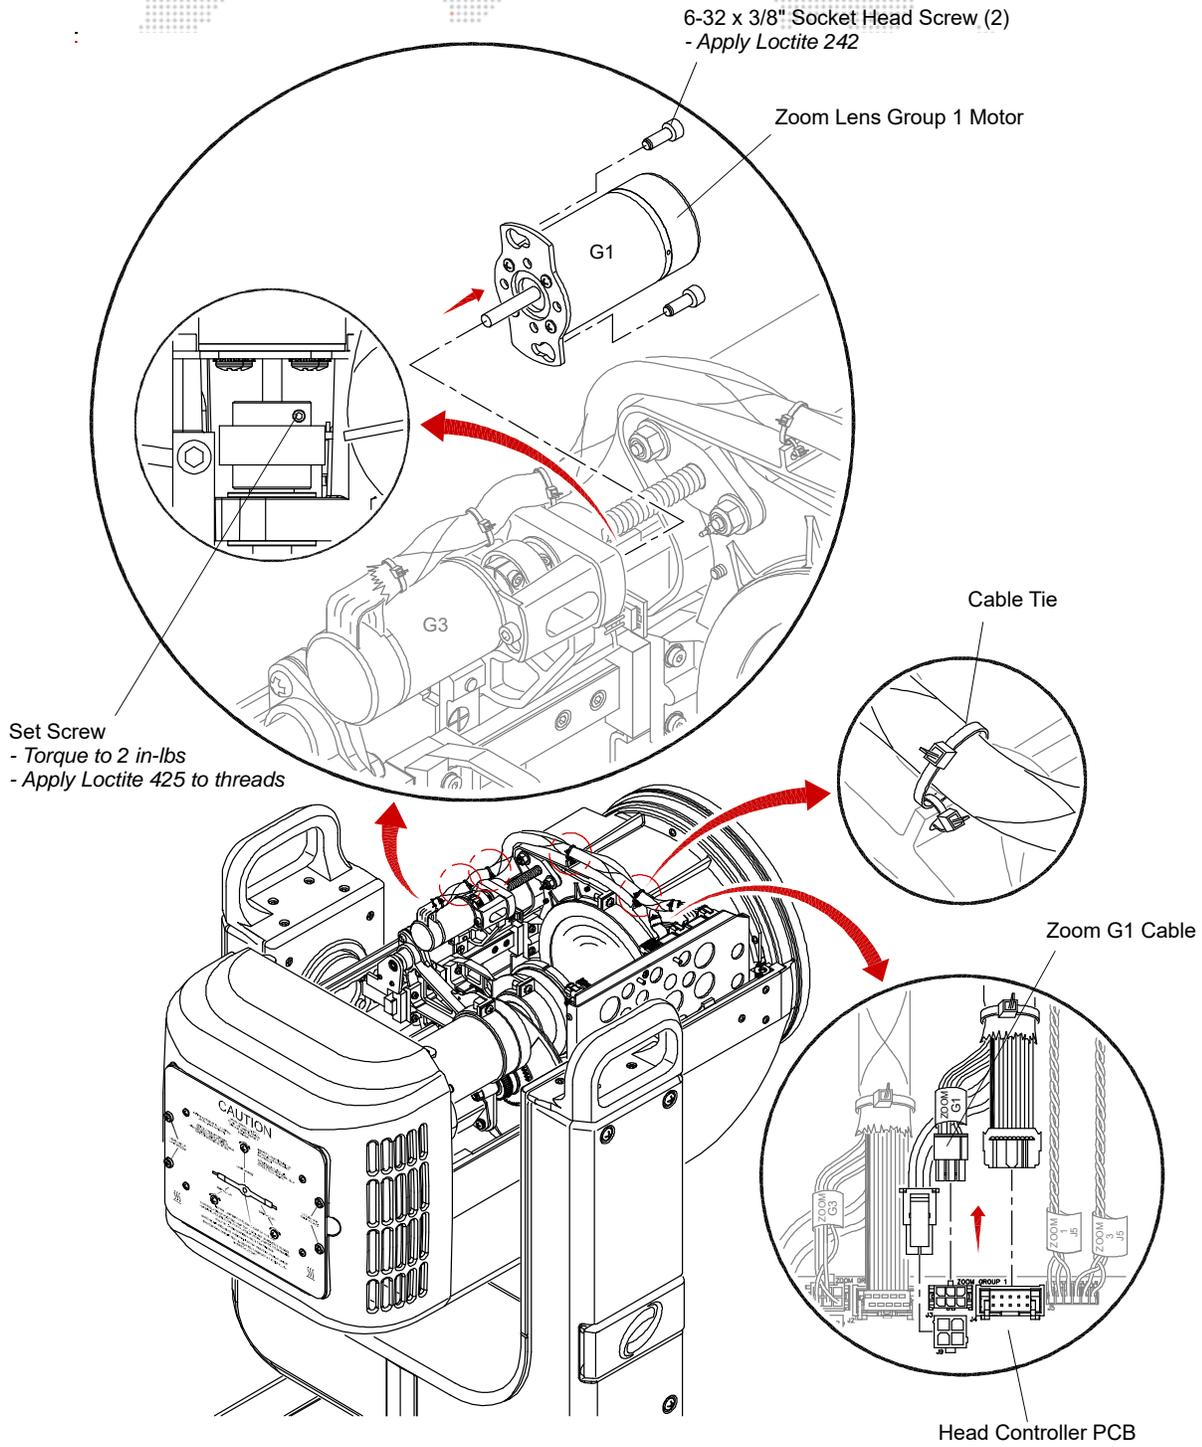

Figure 3-33: Removing Zoom Lens Group 1 Motor
- a. Lens Group 1 Motor (G1) in **Figure 3-33**